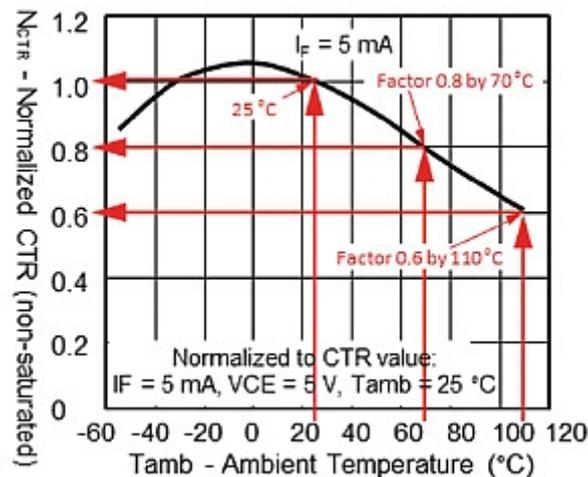

Figure 14: Normalized CTR (non-saturated) vs. ambient temperature
The normalized form of the CTR graph in Figure 14 provides a reference for a quick estimation on the variation of the CTR at a given forward current (IF) and at ambient temperatures ranging from -50 °C to +100 °C.